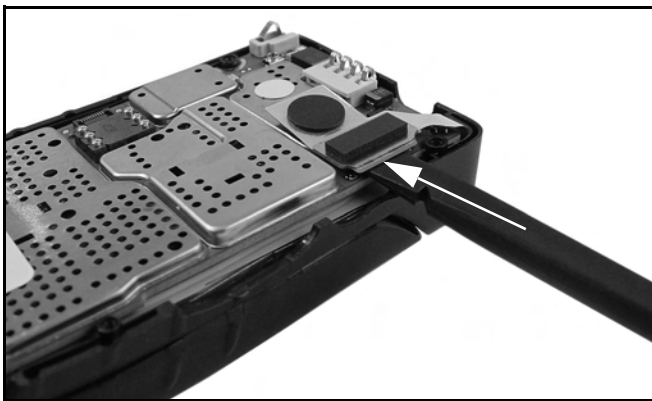

Figure 7-8.
1. Wedge black stick under 50-pin flex connector. Gently pry upwards along length until release (see Figure 7-8).